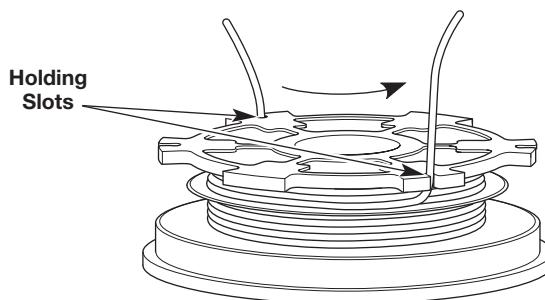

Fig. 15
3. Insert the two 6-inch sections into the two .080 holding slots (Fig. 15).
4. Insert the two 6-inch sections into the two .080 holding slots (Fig. 15).